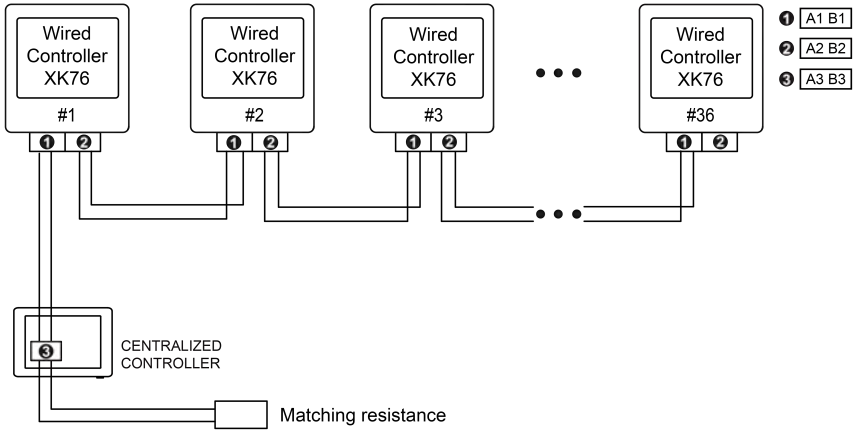

Fig.3.9 Centralized Controller Connected with Wired Controller XK76
- (1) The connection sketch map of control system is shown by the fig. 3.9. The complete control system is composed of long-distance central controller, wired controller XK76 and telecommunication cable. The wired controller XK76 matched with long-distance central controller can support 36 addresses of communication node at the most.